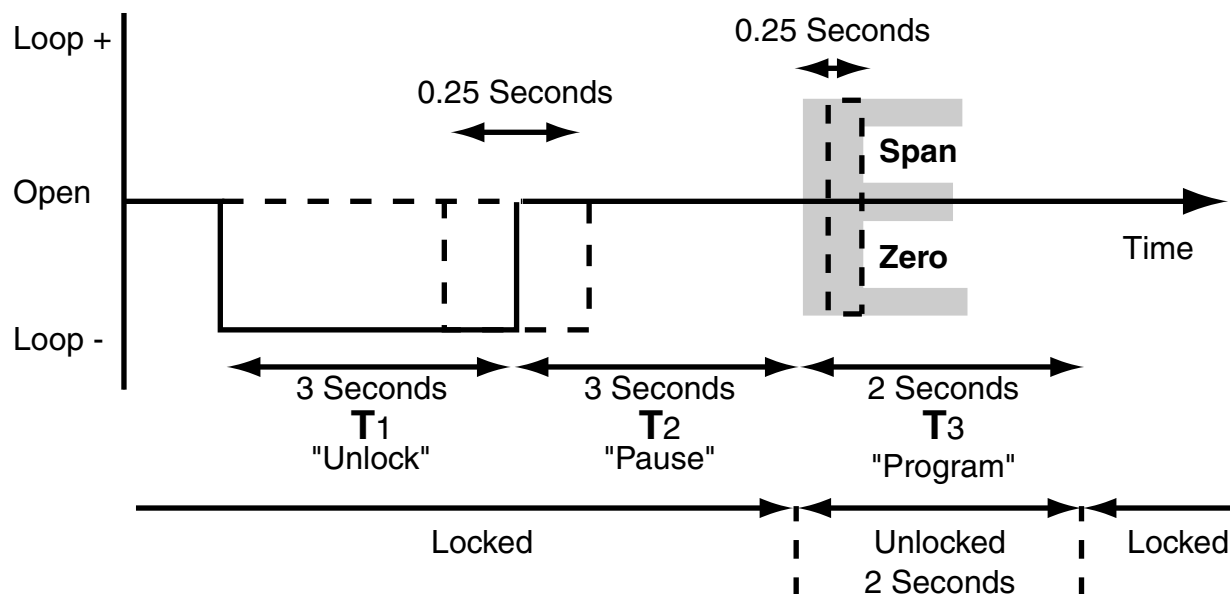

Figure 2-18
- 1.) Unlock the configuration program by “Shorting” the White Program Wire (Blue in EU) to the Black Loop “-” Wire for three (3) seconds. See figure 2-18 for full timing sequence.
- 2.) Release the Short for three (3) seconds
- 3.) Set Zero or Span by “Shorting” either the Red Loop “+” Wire (Brown in EU) or by “Shorting” the Black Loop “-” Wire to the White Program Wire (Blue in EU) for two (2) seconds.
- 4.) The DM3X0 Series “Locks” the programming menu after ten (10) seconds from time of entering the program.
- 1.) Unlock the configuration program by pressing the Span pushbutton for three (3) seconds. See figure 2-18 for full timing sequence.
- 2.) Release the Span pushbutton for three (3) seconds
- 3.) Set Zero or Span by pressing either the Zero pushbutton or by pressing the Span pushbutton for two (2) seconds.